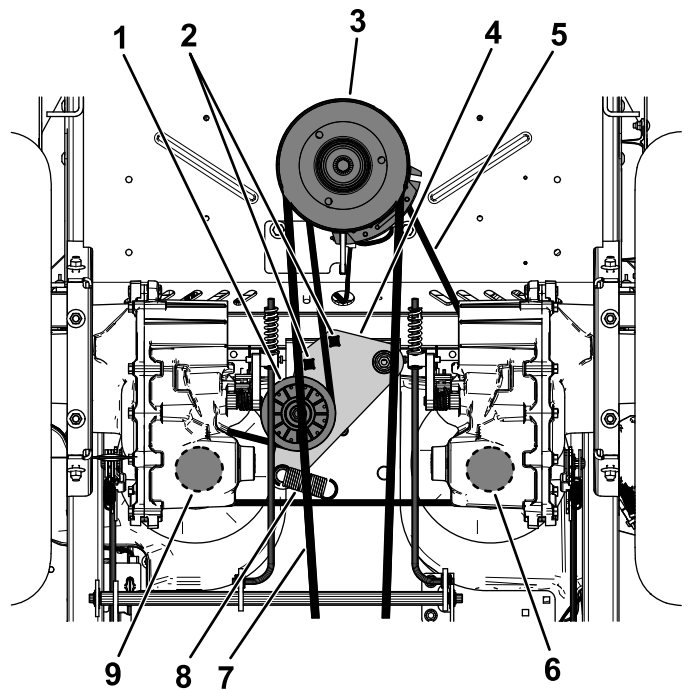

Figure 78
5. Use a 1/2-inch ratchet or breaker bar in one of the square holes in the idler arm to remove tension on the idler spring (Figure 78).
6. Remove the existing belt from the idler pulley, 2 hydraulic-pump-drive pulleys, and engine pulley (Figure 78).
7. Install the new belt around the idler pulley, engine pulley, and 2 hydraulic-pump pulleys (Figure 78).